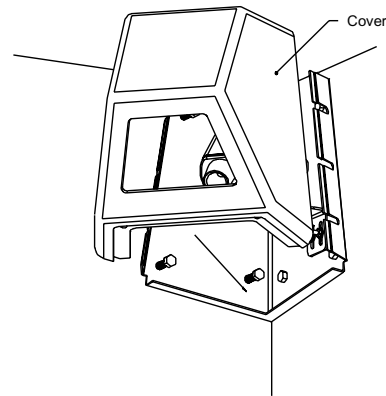

Figure 12: Replacing the Cover
1. Mount the cover by aligning the studs with the slots on the rear panel. Secure using the six flange nuts. **See Figure 12.**